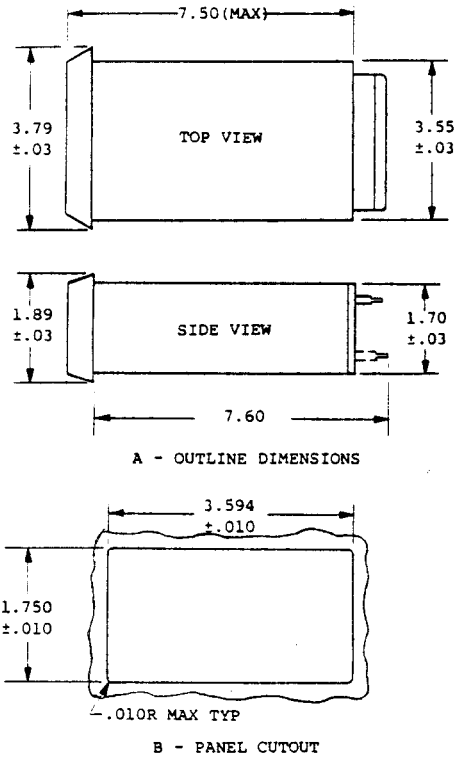

Figure 1-3. Installation Drawings
- a. Cut out hole in panel (B, figure 1-3).